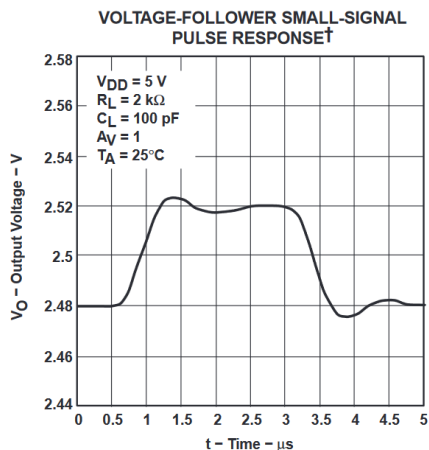

Figure 5-23.
- Where the load is referenced. When the load is referenced to either rail, this condition does not occur. The distortion occurs only when the output signal swings through the point where the load is referenced. Figure 5-23 illustrates two 2k Ω load conditions. The first load condition shows the distortion seen for a 2k Ω load tied to 2.5V. The third load condition in Figure 5-23 shows no distortion for a 2k Ω load tied to 0V.
- Load resistance. As the load resistance increases, the distortion seen on the output decreases. Figure 5-23 illustrates the difference seen on the output for a 2k Ω load and a 100k Ω load with both tied to 2.5V.